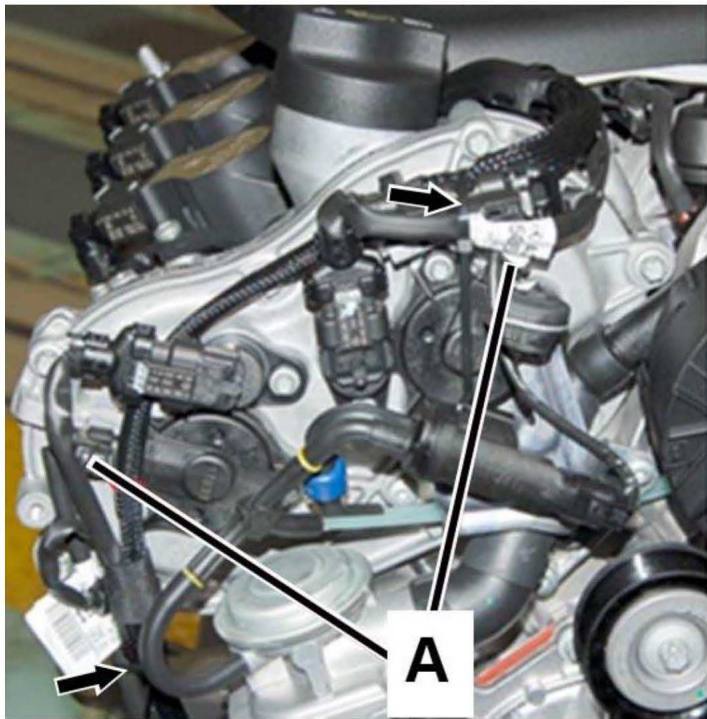

Figure 3
3. Connect adapter harnesses (A, Figures 3 and 4) shown above.
**Note:** Ensure harness adapters are properly secured using cable ties (arrows, Figures 3 and 4) to prevent wire chafing and/or damage from hot engine parts, (e.g. oil cooler [B]).